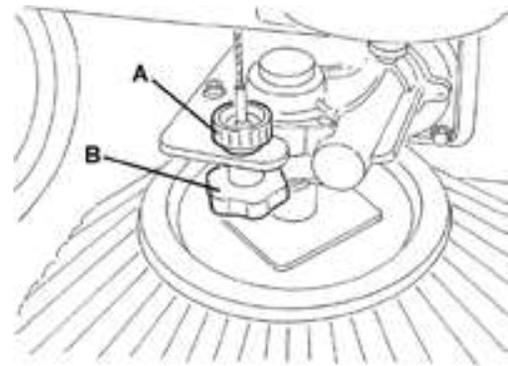

Figure7
2) Turn the ignition key (71) to "0".
3) Loosen the knob (A, fig. 7) positioned above the brush.
- 4) Turn the knob (B, fig. 7) and remind that: